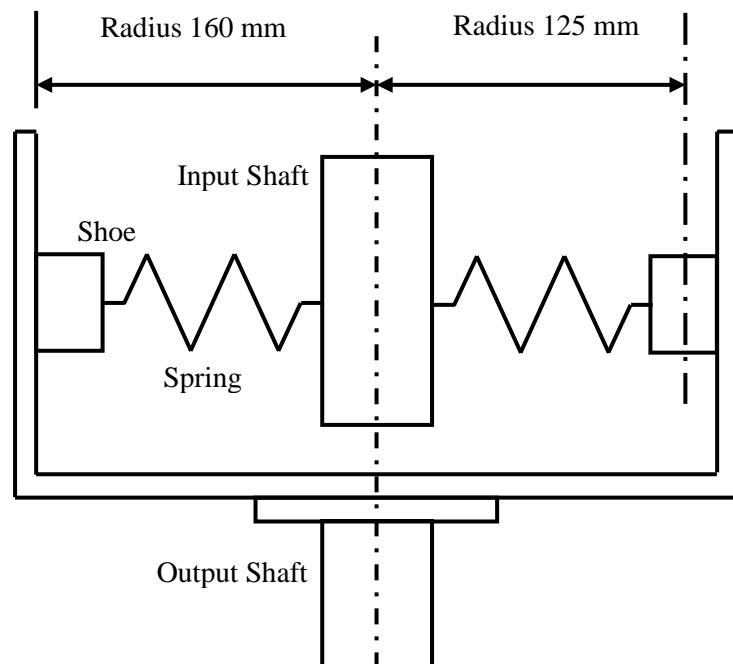

Fig Q2
- (a) the velocity of the follower when 8 mm from the end of its upward travel; (5)
- (b) the maximum force between the follower and the cam; (3)
- (c) the time taken for the follower to move from a point 15 mm before mid-travel to the end of its travel. (8)
2. A centrifugal shoe clutch is shown in Fig Q2 and has four shoes retained by springs. The shoes first contact the output drum at 480 rev/min, at which point the centre of gravity of EACH shoe is at a radius of 125 mm from the shaft axis. The internal radius of the output drum 160 mm. When the drive shaft speed is increased to 840 rev/min, the power transmitted to the output shaft is 26 kW.